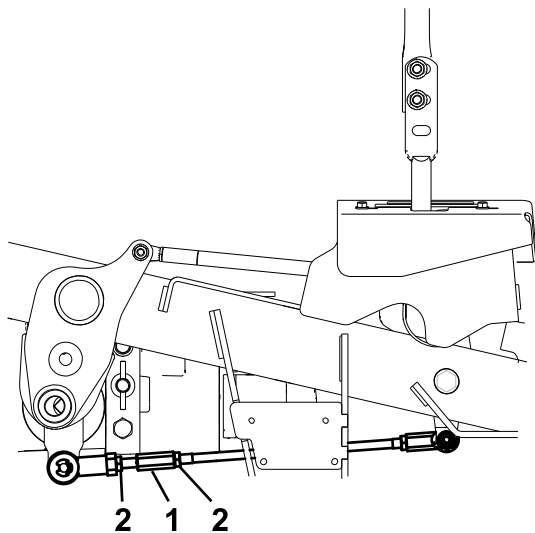

Figure 59
10. Adjust the pump control rod lengths by rotating the double nuts on the rod in the appropriate direction until the wheels slightly creep in reverse (Figure 59).